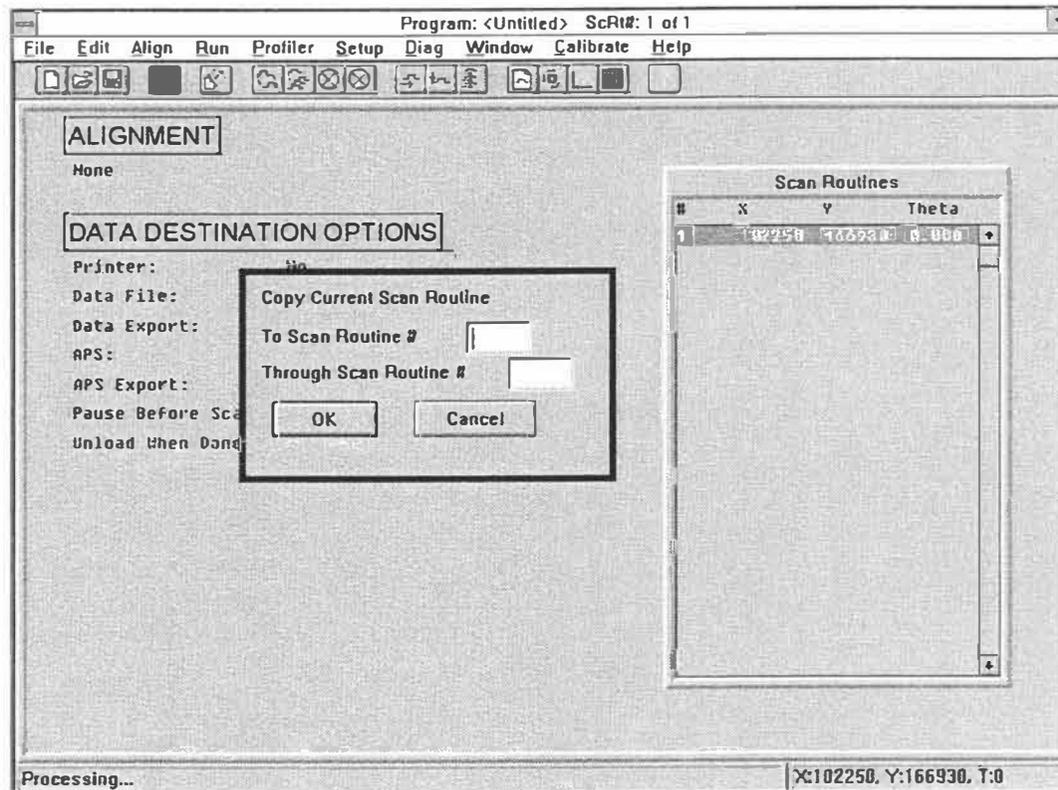

Figure 5-2. Copy to Range Window
1. Click-on "Edit" from the Automation Program window menu bar and click-on "Copy to Range..." from the Edit Menu. A pop-up window will be displayed requesting the copy to range (see Figure 5-2).